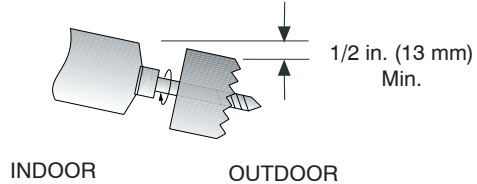

Fig. 9 – Drill Holes
1. Determine pipe hole position using the mounting plate as a template. Drill pipe hole diameter per chart below. The outside pipe hole is 1/2-in. (13 mm) min. lower than inside pipe hole, so it slants slightly downward (see Fig. 9). If piping is going to exit from the left rear, it is recommended to field-fabricate piping extensions to get the flare connections to the outside of the wall.